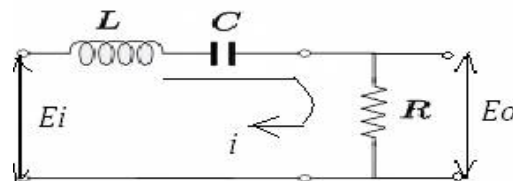

Figure-2
- (d) Derive transfer function for the system given in figure-2: